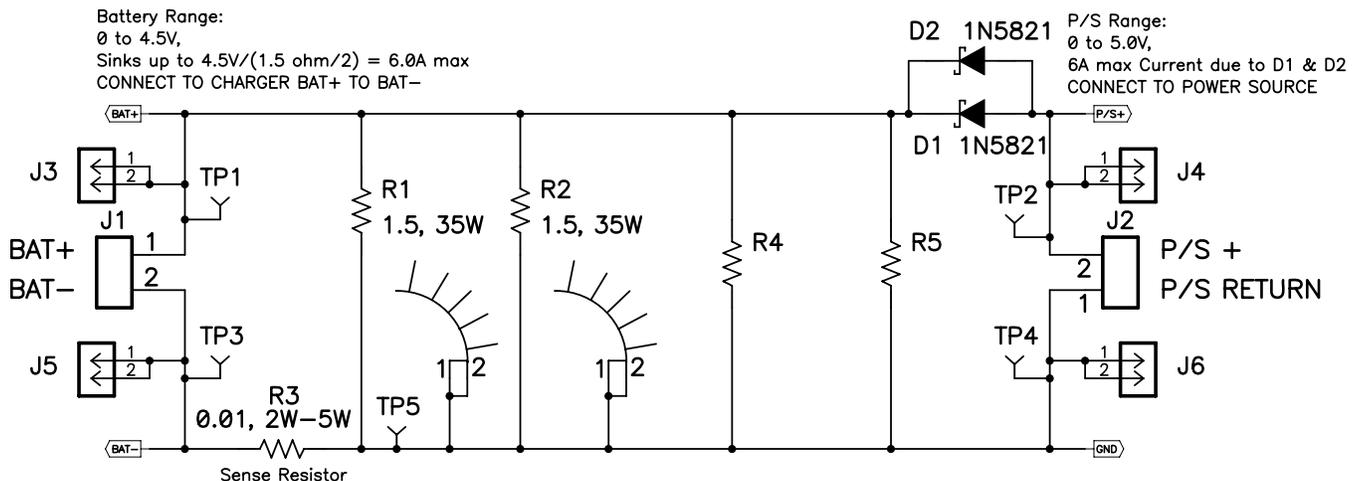

Figure 2. BAT\_Load (PR1010E4) Schematic
2. If not using a battery as the load, then power supply #2 (PS#2) capable of supplying up to 5 V at 5 A is required to power the circuit shown in Figure 2.
Testing with an actual battery is the best way to verify operation in the system. If a battery is unavailable, then a circuit similar to the one shown in Figure 2 can simulate a battery when connected to a second power supply.
3. If BAT\_Load (PR1010) as shown in Figure 2 is used, connect Power Supply #2 (PS#2) set to approximately 2.5 V to the input side (PS#2+/-) of BAT\_Load (PR1010), and then turn off PS#2.